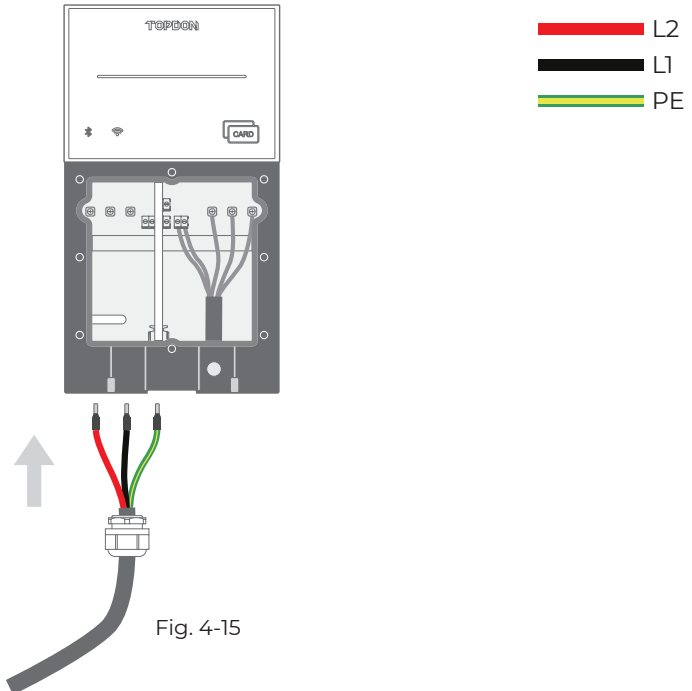

Fig. 4-15
6. Pass the crimped power cable through the hole. (See Fig. 4-15)